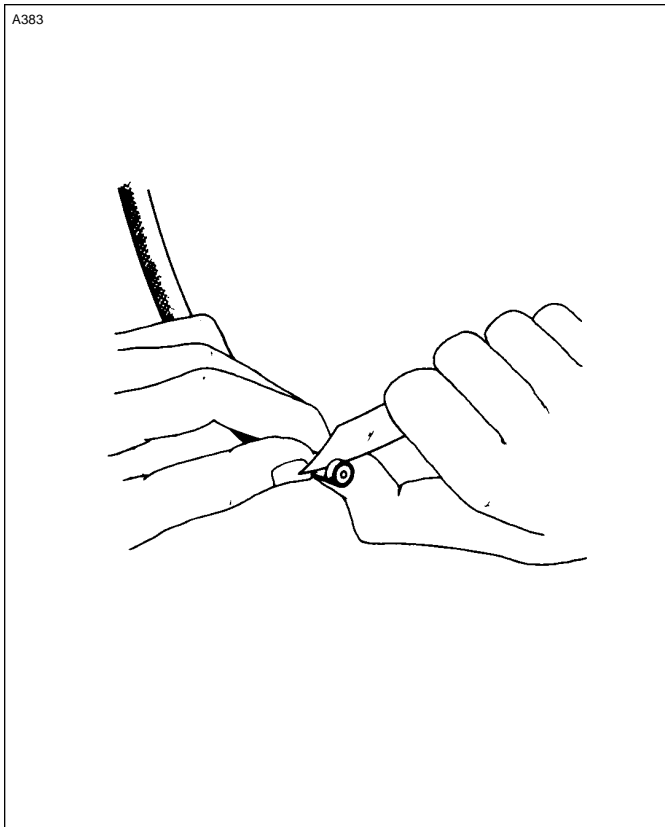

Figure 8-16 Cutting Insulation
- e. Cut exposed insulation 0.062 inch and .125 inch for Bendix magnetos back from end and roll the insulation clockwise to remove it. Do not pull the insulation off the wire. Trim the end of the coiled conductor to make a clear hole for inserting the stud. Refer to Figure 8-16.